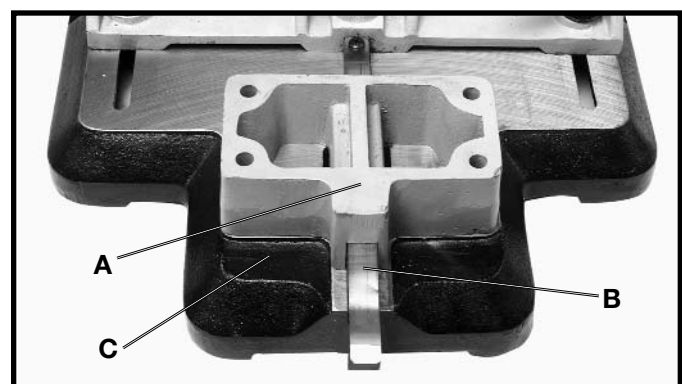

Fig. 17
4. Place the column extension (A) Fig. 17, on top of the rack (B). Align the four holes in the column extension (A) Fig. 17, with the four holes in the base (C).